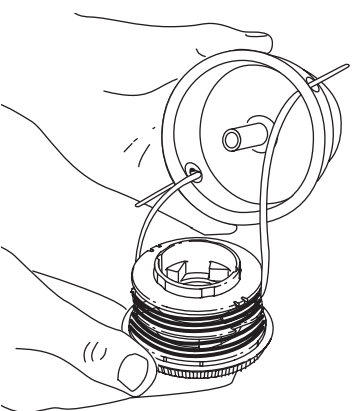

Fig. 24
3. Insert the ends of the prewound inner reel line into the outer spool eyelets (Fig. 24). Push the new inner reel, arrow side up, into the outer spool.
3. Pull the inner reel with existing line from the outer spool (Fig. 24).